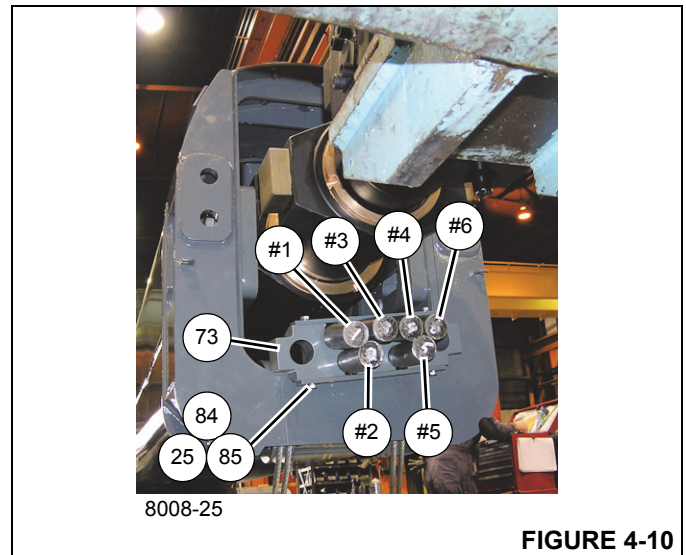

FIGURE 4-10
40. Remove the two bolts (85) and lock washers (25) securing the plate cover (84) to the anchor plate (73), then remove the four tele 3 extend cables (150), labeled 1, 3, 4, and 6, from the anchor plate (73) (see Figure 4-10).
41. Remove the two bolts (85) and lock washers (25) securing the plate cover (84) to the anchor plate (73), then remove the two tele 3 extend cables (150), labeled 2 and 5, from the anchor plate (73) (see Figure 4-10).